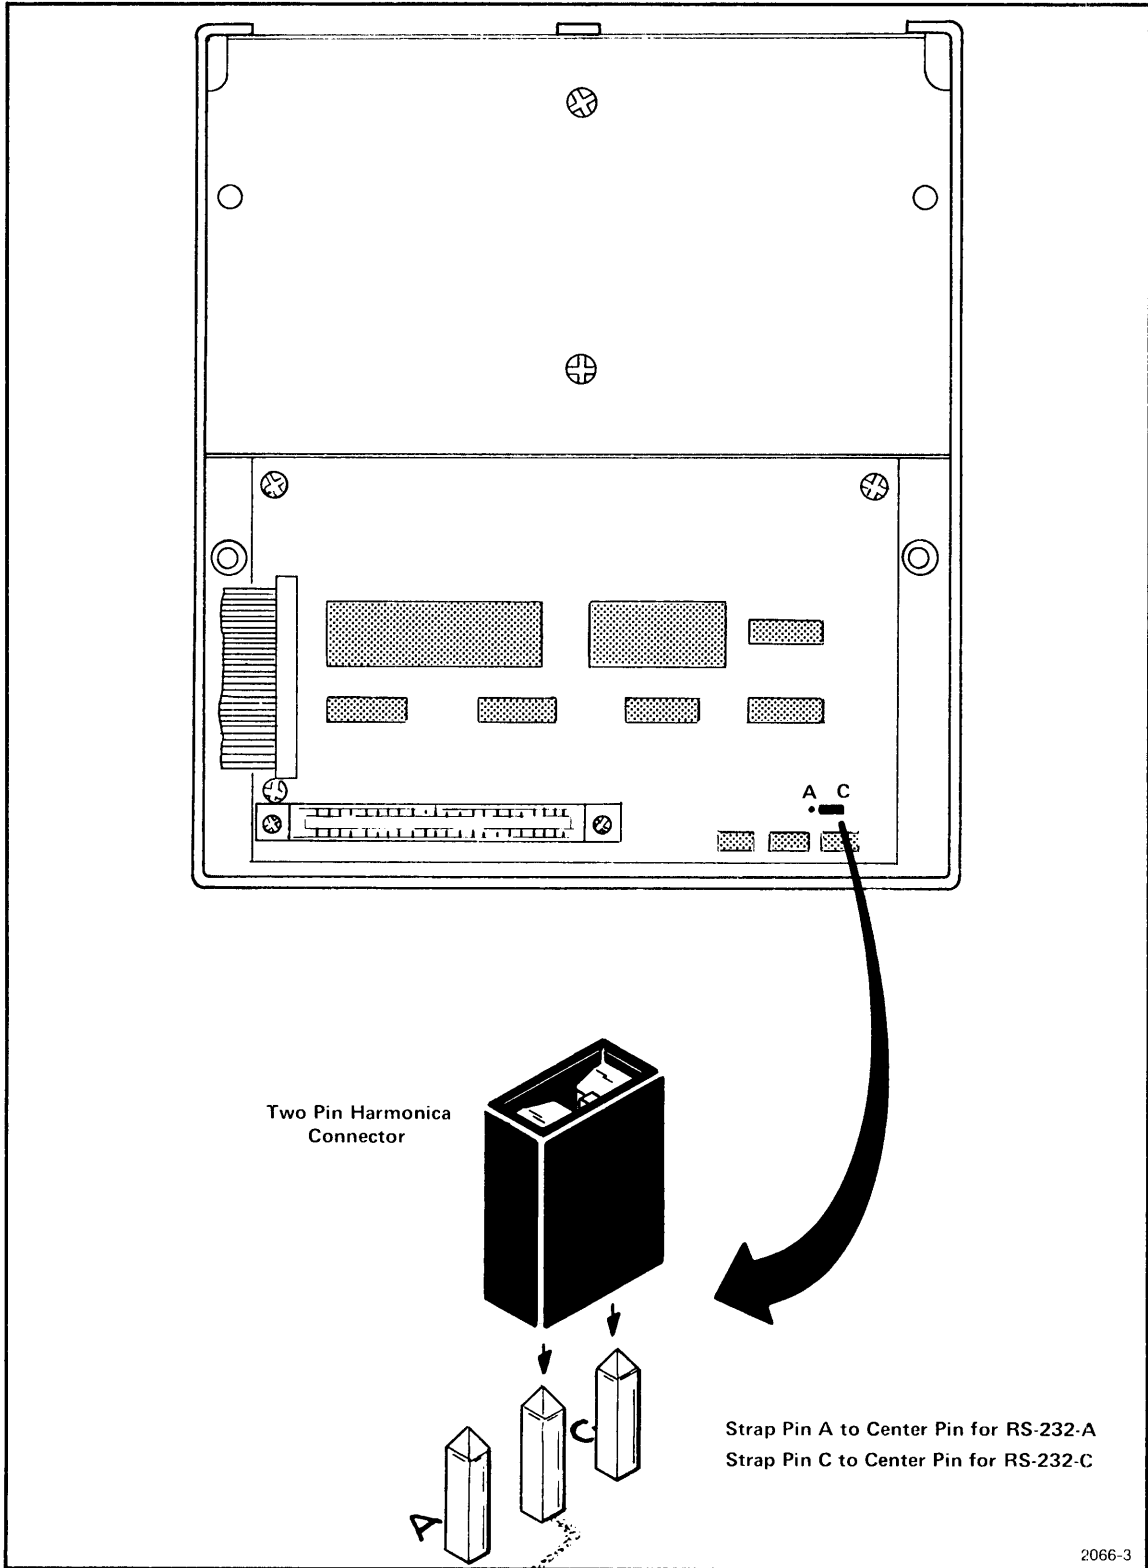

Fig. 3-2. RS-232 Strap Option. Strap Pin A to Center Pin for RS-232-A Configuration.
4. Remove the packaging material from the 4051 Data Communication Interface and check the position of the two-pin harmonica connector as shown in Fig. 3-2. If your data communication application conforms to the RS-232-A standard, the two-pin harmonica connector should be positioned over pin A and the center pin. If your data communication application conforms to the RS-232-C standard, then the two-pin harmonica connector should be positioned over pin C and the center pin.